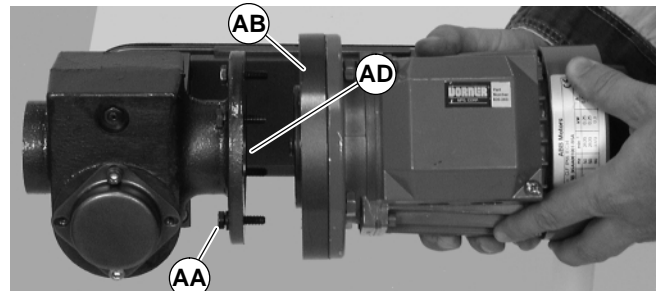

Figure 18
5. With key (AD of Figure 18) in keyway, slide motor (AB) and gear reducer together. Install screws (AA) and tighten.